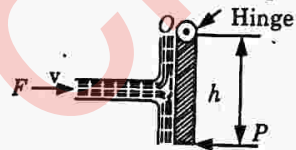

Fig. 4.4.1.
3. If the plate is not allowed to swing, a force P will be applied at the lower edge of the plate as shown in Fig. 4.4.1. The weight of the plate is acting vertically downward through the CG of the plate.